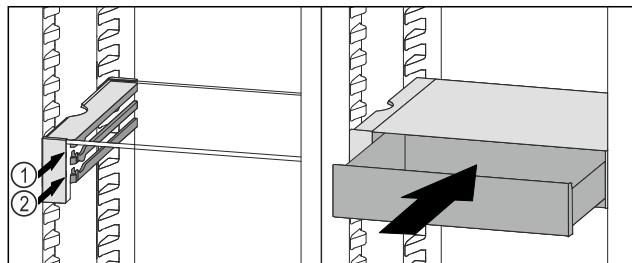

Fig. 138
- ▶ Place the VarioSafe drawer behind the stoppers on desired rib Fig. 138 (1) or Fig. 138 (2).